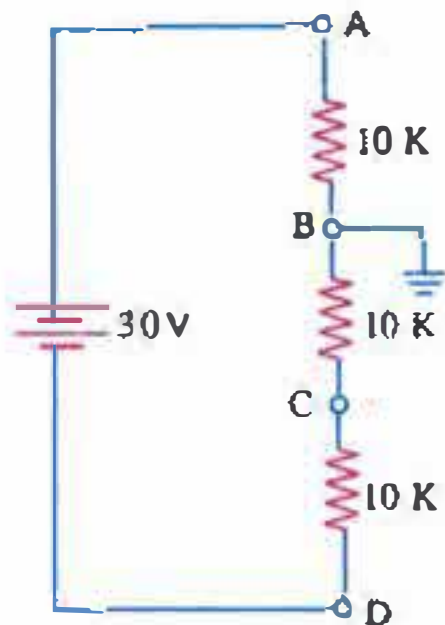

Fig. 1.21
- In the series circuit of Fig. 1.21, compute the voltage to chassis ground of points A , C and D . What is the p.d. between A and C ? [$+10\text{ V}$; -10 V ; -20 V ; 20 V]